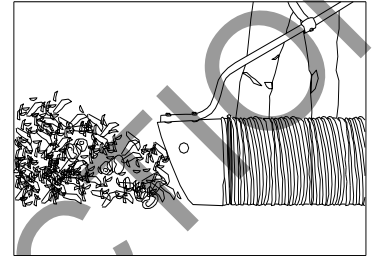
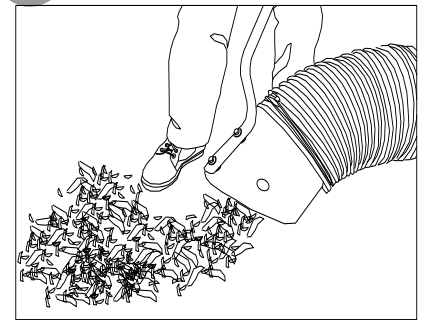

Fig. 3
Fig. 4
**INTAKE OPERATION:** With fully assembled machine running, move the nozzle in sweeping motions over debris. Always allow air to flow into the nozzle along with the debris. Do not completely block the nozzle when vacuuming, it will reduce performance, and increase clogging (See Fig. 3). For removal of heavier debris, or debris that is stuck to the ground, rock nozzle forward to concentrate suction power around the debris (See Fig. 4)